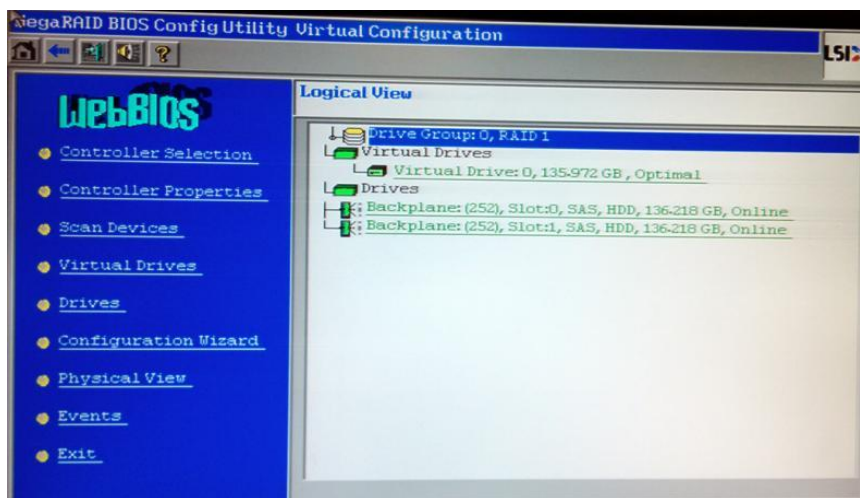

Figure 46: Correct Logical Drive Information
8. If the information in Figure 46 is not shown on your screen, the MegaRAID configuration may not be imported correctly. In this case, please Exit the utility without saving the configuration, then power cycle it to import the configuration again by repeating this step.
9. If the information in Figure 46 is shown on the screen, the configuration is correctly imported.